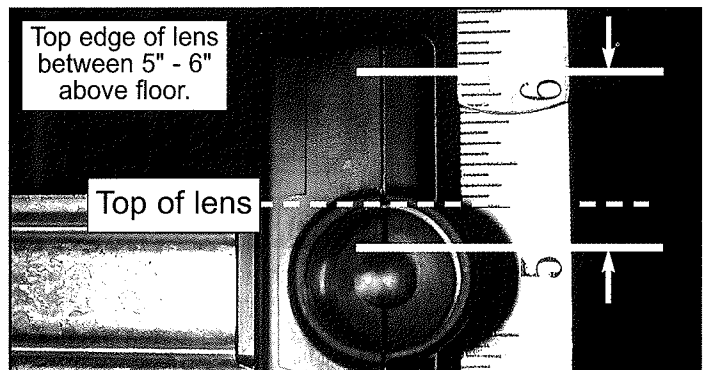

FIG. 8 Check lens height
- Make sure that tops of lenses are between 5"-6" above the floor (Fig. 8). The brackets are flexible, and can be adjusted slightly if needed.